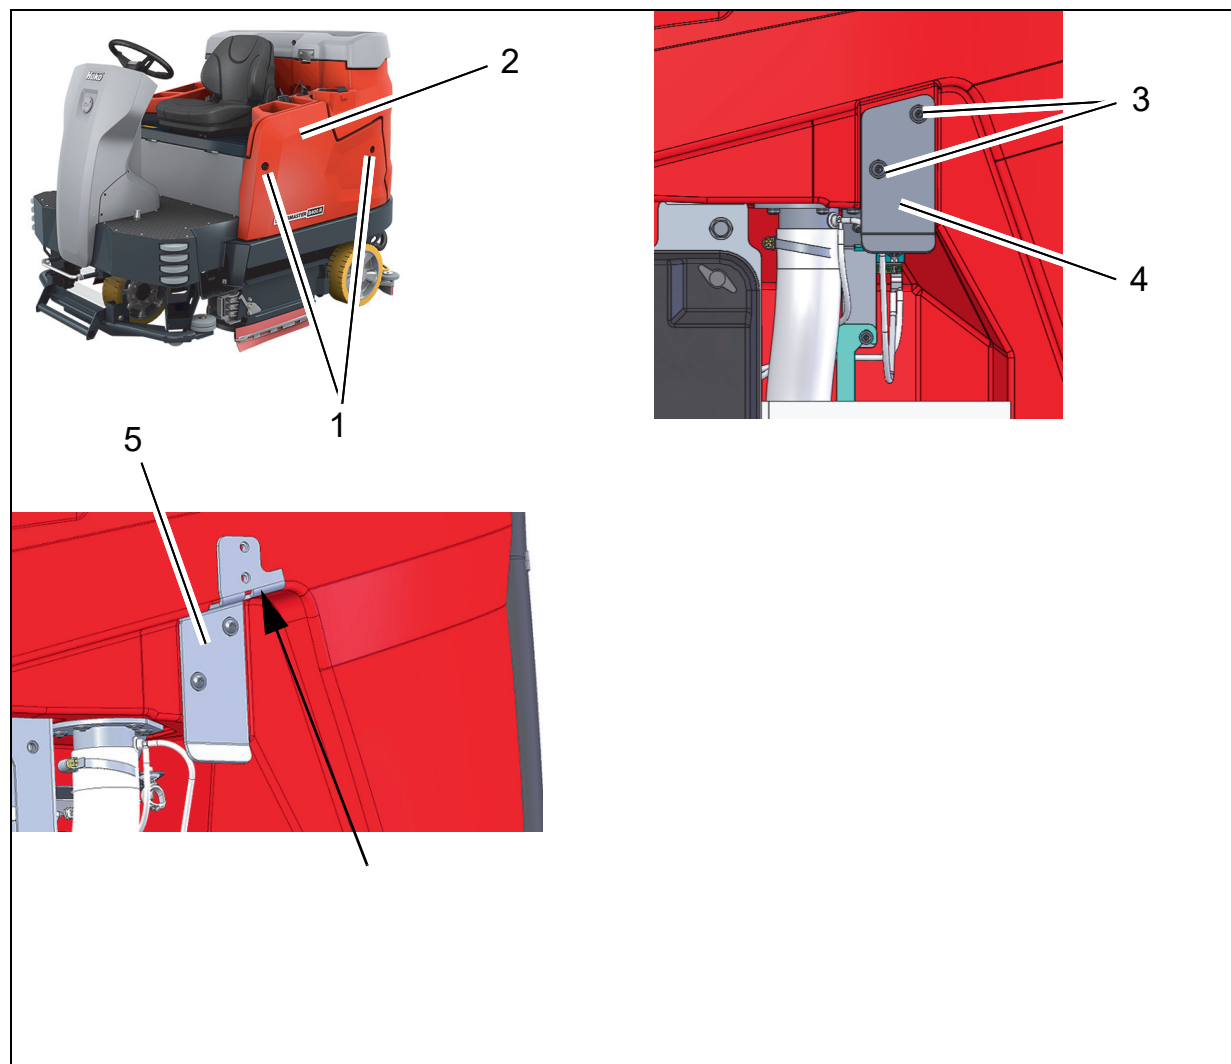

Fig. 2
1. Undo the locking mechanism (Fig. 2/1) on the side panelling (Fig. 2/2) using the supplied spanner. Remove the side panelling.
2. Undo the bolts (Fig. 2/3) on the existing locking plate. Remove the locking plate (Fig. 2/4).
3. Push the new locking plate (Fig. 2/5) upwards to the locating edge and install it using the M6x16 flanged button head bolts. Secure the flanged button head bolts with Loctite 243. Tightening torque: 10 Nm.